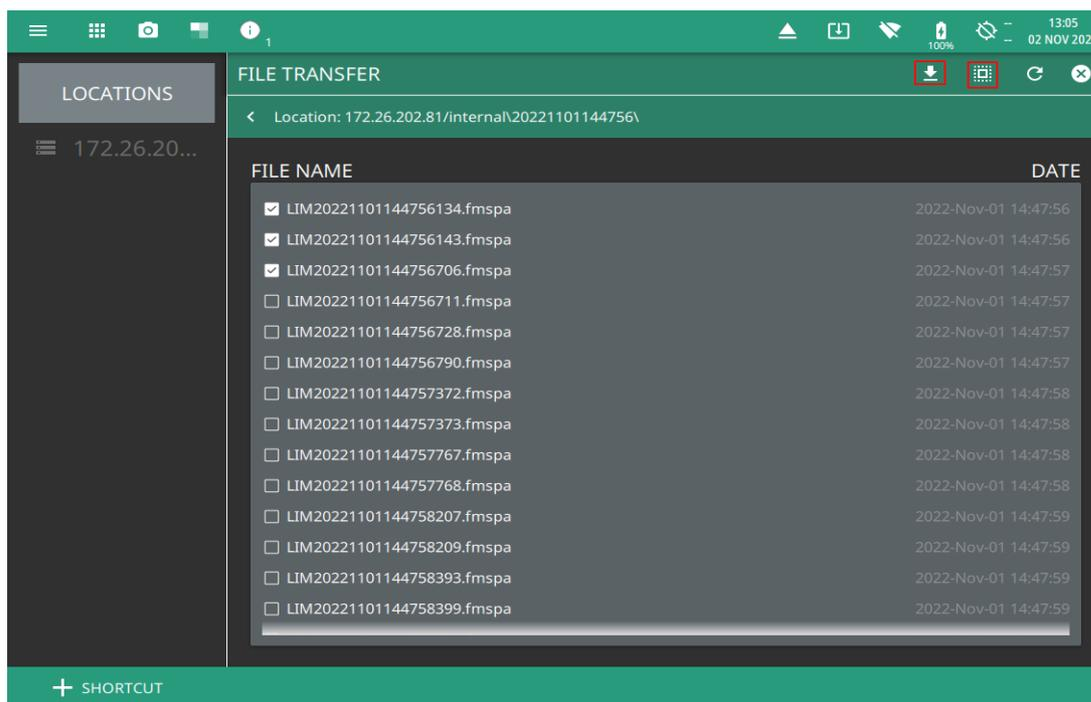

Figure D-9. File Transfer Menu
2. Click FILE TRANSFER to view the list of internally saved files for e.g. screenshots. See Figure D-9.